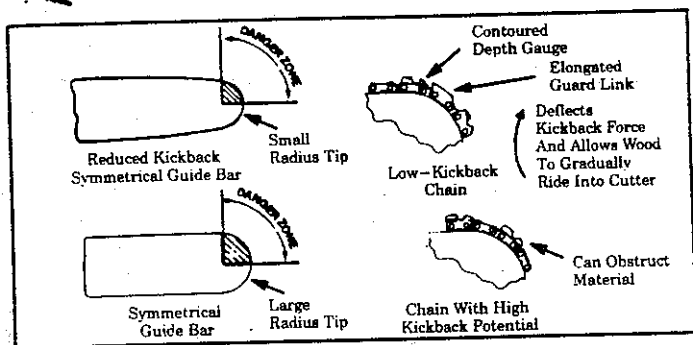

Figure 5
- Optional Reduced-Kickback Guide Bar, designed with a small radius tip which reduces the size of the kickback danger zone on the bar tip. Figure 5. A reduced-kickback guide bar has been demonstrated to reduce the hazard of kickback.
- Optional Low-Kickback Chain, designed with a contoured depth gauge and elongated guard link which allows wood to gradually ride into the cutter. Figure 5. Low-Kickback Chain has been demonstrated to reduce kickback significantly.